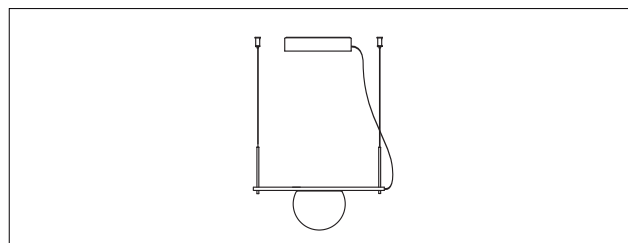

Figure 1B
- To be mounted facing down (figure 1B) go to step 2.